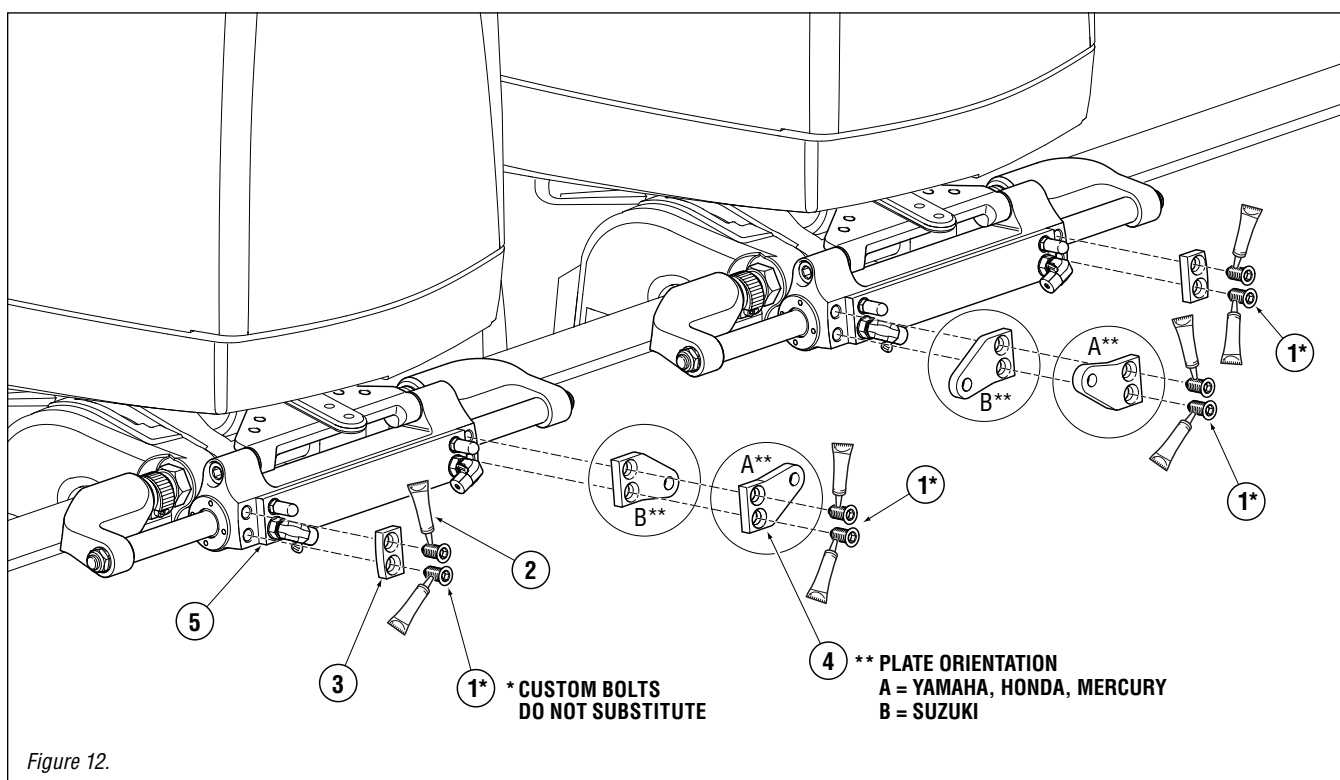

Figure 12.
2. Mount tiebar and blanking plates (item 3 and 4) to both sides of steering cylinder (item 5) as shown in Figure 12.